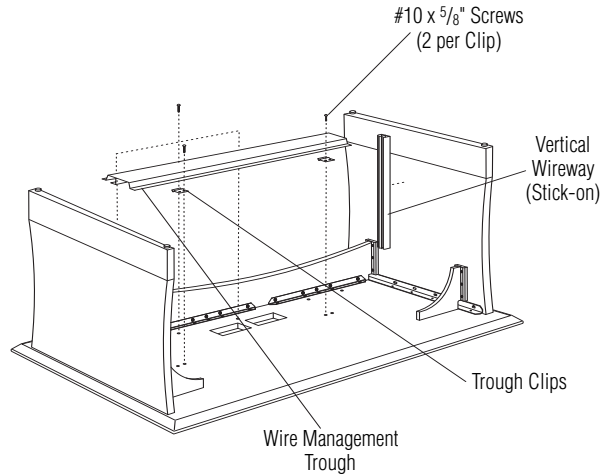

Figure 3
1. Attach the standard plastic, self-adhesive, vertical wire manager to the inside of the panel closest to the power source. Place any electrical cords inside the vertical wire manager (Figure 3).